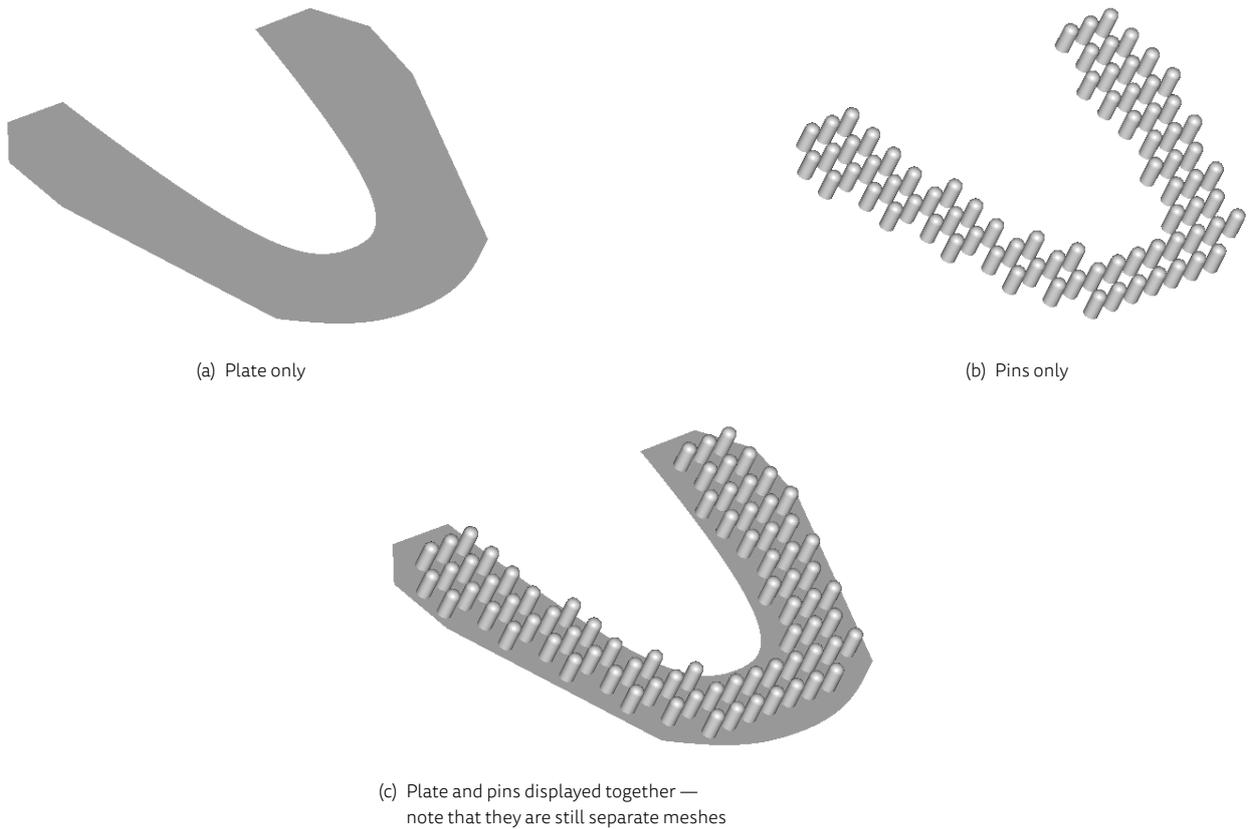

Figure 2.2: Example for plate and pins as two separate elements
2. The model shall be composed of two separate elements which are to be given as meshes: The model base plate and the model base pins (see Figure 2.2). Repeating the base plate in the pins mesh would lead to an inaccurate calculation of the model bottom at the conjunction of plate and pins and should be avoided.